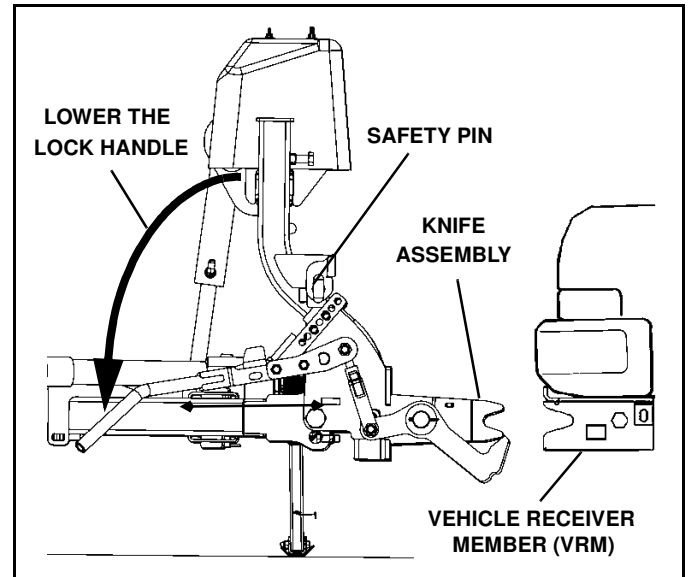

Figure 1-34
32. Release the lock handle safety pin and lower the lock handle fully. (See Figure 1-34).
34. Drive truck up to plow and engage the plow knife assembly with the VRM on the truck. (See Figure 1-34).